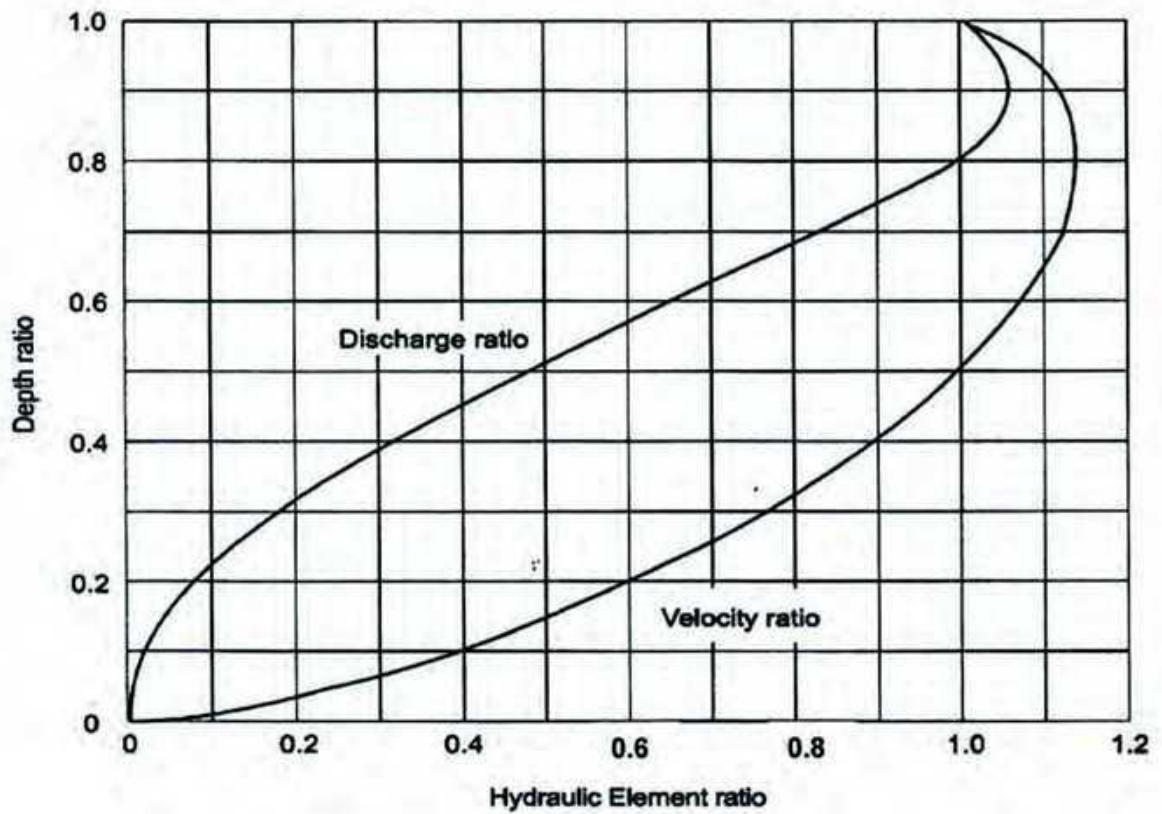
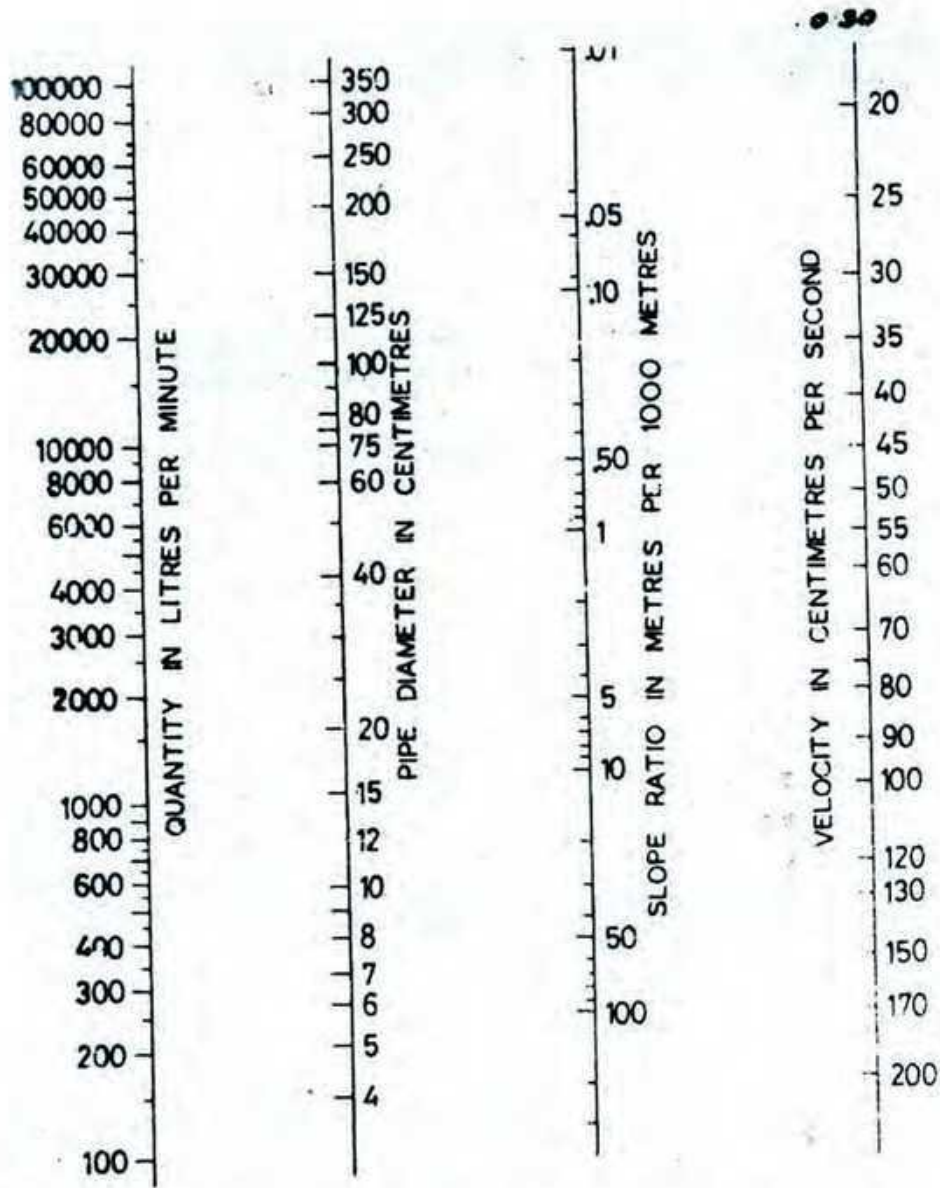

Figure 2: Hydraulic elements diagram
Figure 3: Nomogram based on Manning's formula for circular pipes running full (for $n = 0.013$)
7. (a) Briefly explain – (i) Black water, (ii) Grey water, (iii) Building sewer, (iv) Lateral sewer and (v) Trunk sewer. (10)
- (b) Using the enclosed nomogram (Fig. 3) and relevant equations, determine the maximum permissible and minimum required discharge in a 30 cm circular concrete pipe with Manning's roughness coefficient of 0.013. The self-cleansing and non-scouring velocities in a concrete pipe are 0.6 m/s and 3 m/s respectively. Also find the required slopes of the pipe to maintain self-cleansing and non-scouring velocities respectively. Now, if the pipe is laid on a slope of 0.03 and flowing half full, what will be the discharge and velocity through the pipe. Use the hydraulic elements diagram in Fig. 2. (15)
8. (a) What are the functions of aeration in activated sludge process? (3)